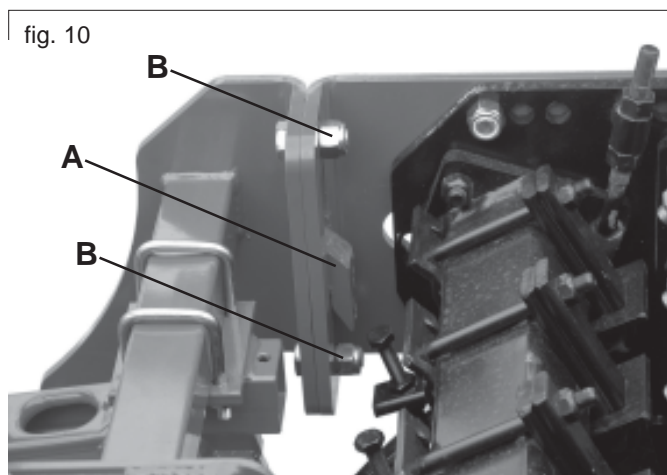

fig. 10
- 4) With the tractor, and exercising extreme caution, bring the rotating harrow close to the seeding bar, then, with the aid of the lifting unit, couple it as shown in figure 10 (A).
- 5) Using the screws provided, (B, Fig. 10) secure the rotating harrow/seeding bar coupling.